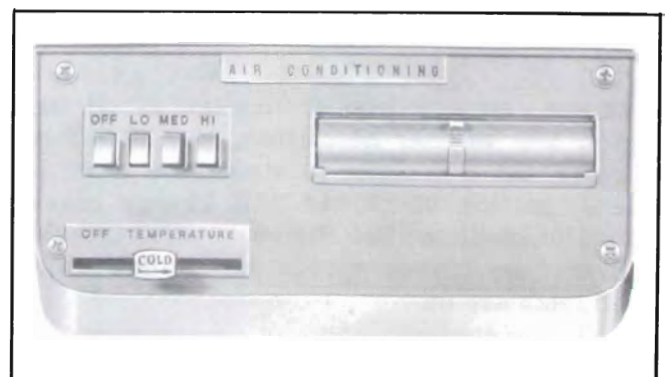

Figure 11-26—Air Conditioner Controls
8. Controls. The air conditioner controls which are located in the evaporator case consist of four push buttons and a lever. See Figure 11-26. The push buttons provide an "OFF" and three blower speeds, low, medium and high. The lever labeled "cold" operates the outside air valve and determines the discharge air temperature. When this lever is at the extreme left, the temperature control switch is at the minimum cooling position and the outside air valve is closed. The first portion of the movement of this lever opens the outside air valve and further movement to the right increases cooling.
2. Depress "Hi" button on evaporator case. See Figure 11-26. (This turns blower on high speed and starts compressor if thermostat points are closed.)